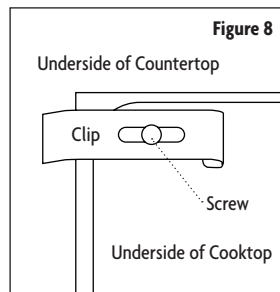

Figure 8
6. Secure the cooktop from underneath with the supplied clips and screws. (Refer to Figure 8.)